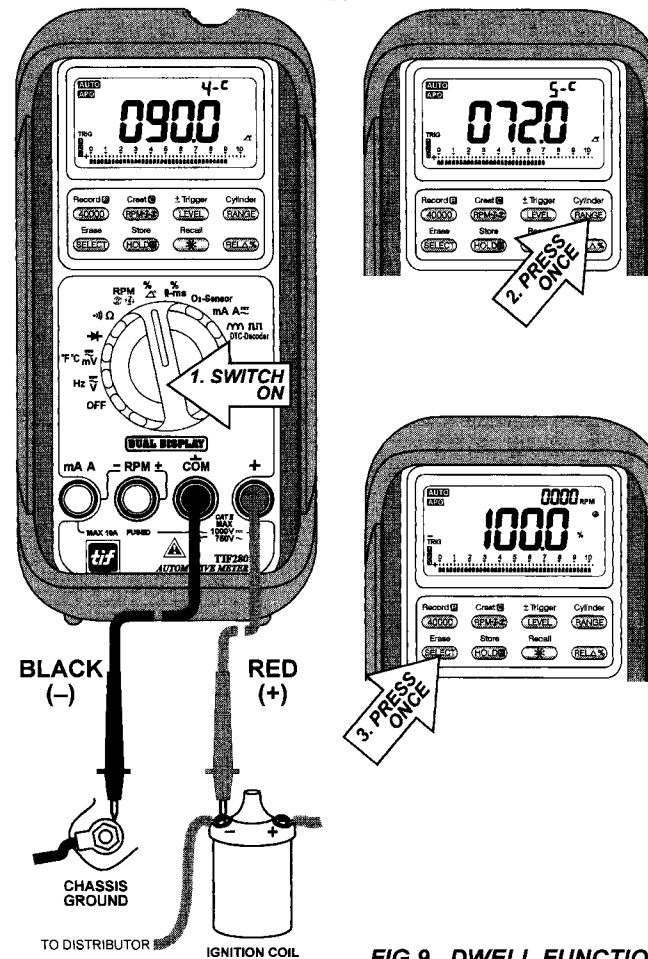

FIG 9. DWELL FUNCTION
- 4) Connect the test leads as shown in FIG 9 and observe the digital display